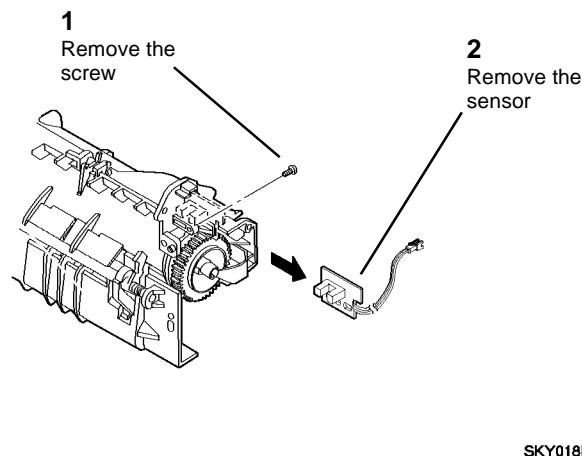

Figure 2 Removing the Fuser Jam Sensor
6. (Figure 2): Remove the Fuser Jam Sensor.